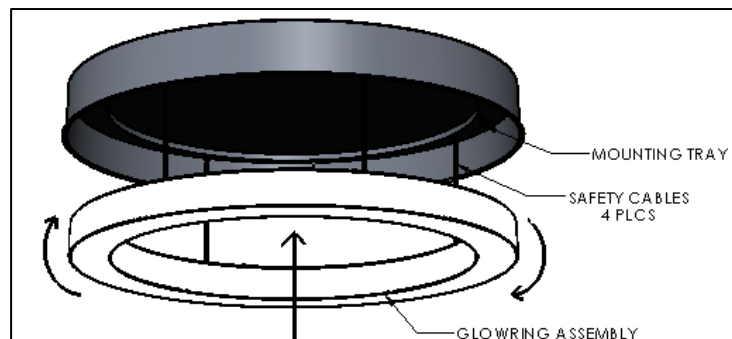

FIG. 15 – GLOWRING ASSEMBLY INSTALLATION
4. Rotate GLOWRING ASSEMBLY counterclockwise to raise the fixture up to the MOUNTING TRAY as show in FIG 15.